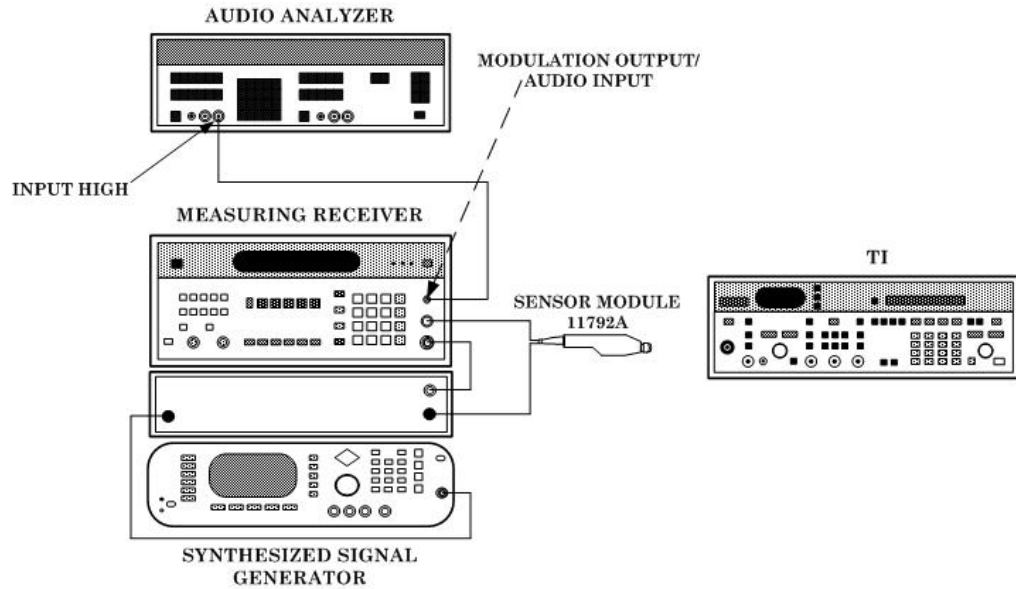

Figure 5. RF output hookup.
(1) Connect equipment as shown in figure 5.